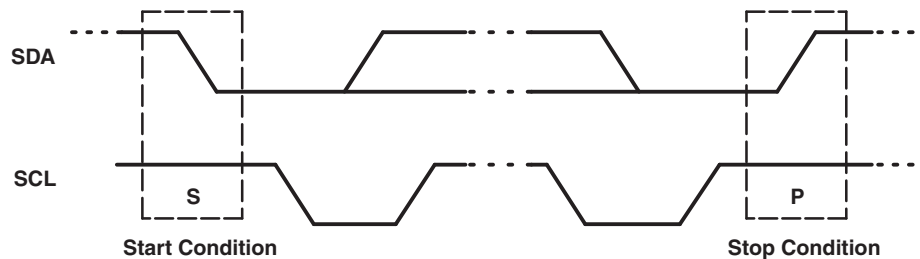

Figure 12. Start and Stop Conditions
Both data and clock lines remain high when the bus is not busy. A high-to-low transition of the data line while the clock is high is defined as the Start condition (S). A low-to-high transition of the data line while the clock is high is defined as the Stop condition (P) (see Figure 12).